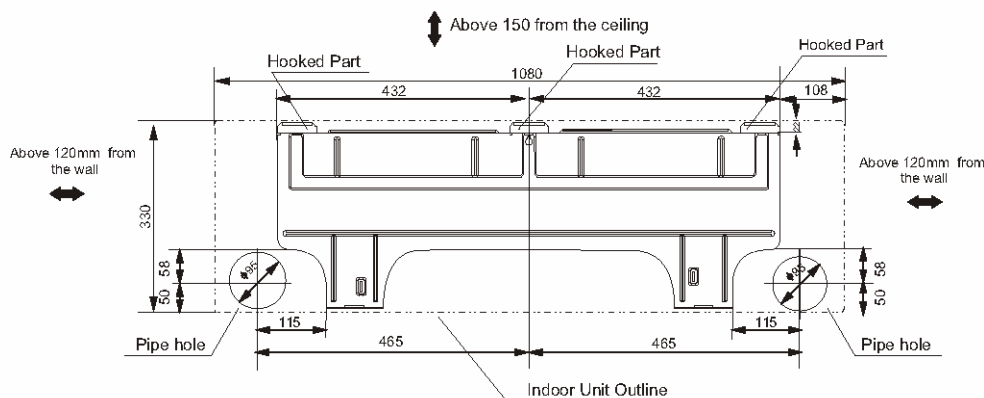

Fig.5
1. Determine hole positions according to the diagram detailed in Fig.5. Drill one (1) hole ( $\Phi$  95mm) slanting slightly to outdoor side.